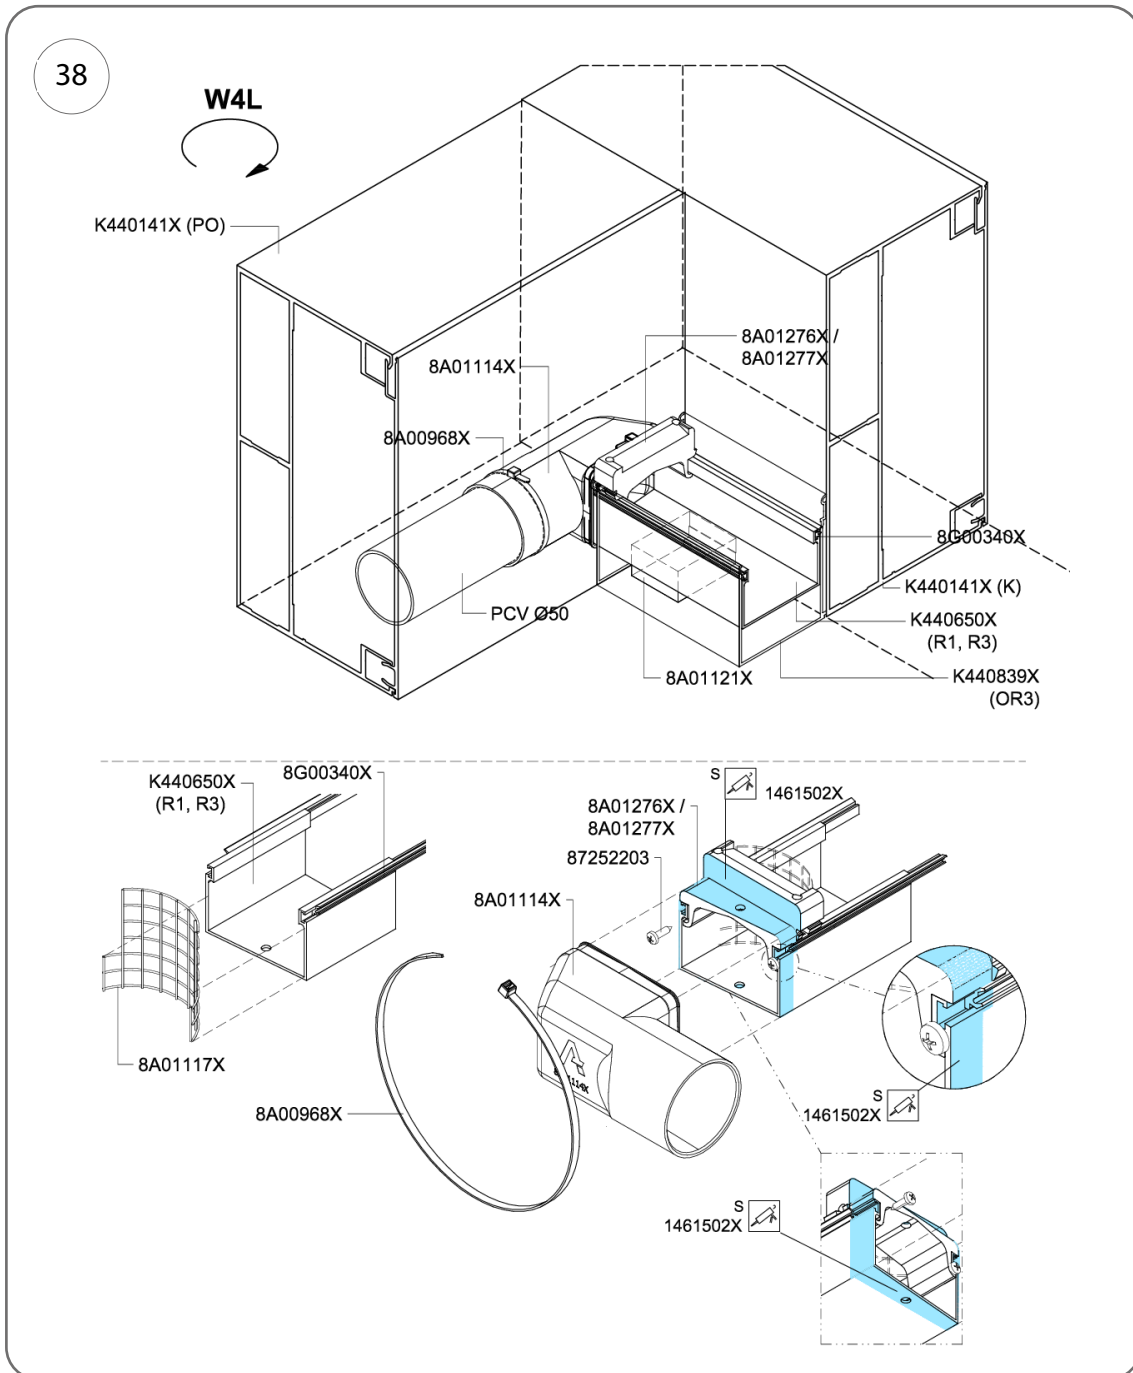

Fig. 38
2. Secure the latch elements from moving by screwing in 2 screws $\text{o}3.5 \times 13 \text{ mm}$ (cat. no. 87252203) – Fig. 38.
3. Apply a layer of adhesive-sealant compound (cat. no. 1461502X) around the entire perimeter of the gutter and the snap-fit element, as shown in Fig. 38.